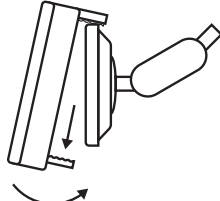

Fig. 2
Connect the Reverse Camera (E) to the Wireless Transmitter (B). The yellow/red plugs on the Wireless Transmitter should be inserted into the yellow/red jacks of the Reverse Camera respectively, as shown in **Fig. 2**.
2. Slide bottom fixtures downwards and push under the bottom edge of your vehicle's rear view mirror, as shown in **Fig. 2**.